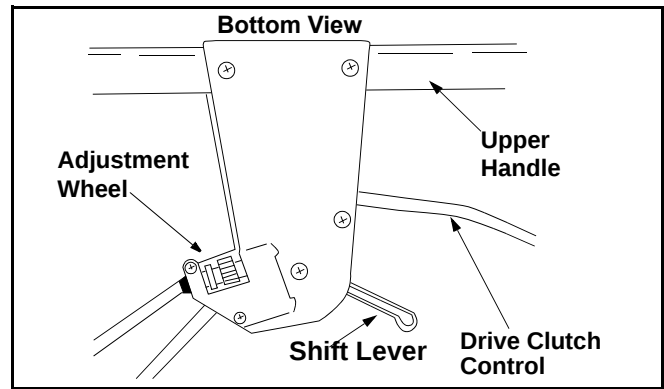

Figure 14
To resolve the above problems, rotate the adjustment wheel with your fingers clockwise to tighten the cable and counter-clockwise to loosen the cable. See Figure 14.
- Start engine and place shift lever in the sixth speed position. See Figure 14.